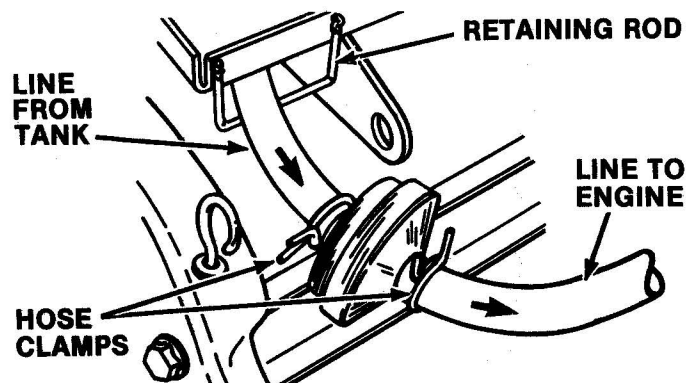

FIG. 12 - FUEL FILTER DETAIL
- SERVICE FUEL FILTER as instructed on page 6 (Figure 12).
Check the in-line fuel filter at frequent intervals and replace before the screen becomes clogged with sediment. Make sure the replacement is correctly installed with IN marking toward the tank and OUT side toward the engine. Route the fuel line thru the holder strap as shown in figure 12. Check the fuel system components frequently and replace any parts showing worn spots or cracks.
Should the mower blade take more than five seconds to stop after the mower blade is switched off, the brake plate may need adjusting. When properly adjusted, a .010" feeler gauge will fit thru the opening on both sides and bottom of the clutch as shown in figure 12. To adjust, turn the four adjusting nuts in or out as needed to obtain the .010" clearance.